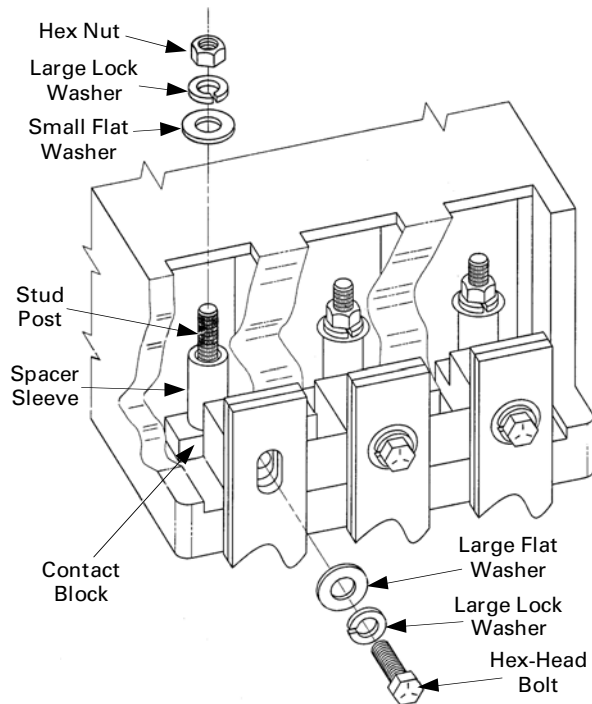

Figure 5. Securing the contact block to the studs and straps.
- a. **TKM and THKM circuit breakers used as main devices (lugs only on the ON side of the breaker).** Place the OFF side of the circuit breaker over the stud posts, as shown in Figure 4. Fasten the breaker to the module with the round-head screws, small lock washers, and flat washers provided. Place the contact blocks on the stud posts. Place spacer sleeves onto the contact blocks and secure each with a hex nut, small flat washer, and large lock washer. Secure the straps to the contact blocks with hex-head bolts, large flat washers, and large lock washers, as shown in Figure 5. Tighten the screws to 35–50 in-lb and the nuts and bolts to 200–250 in-lb.
- d. **All circuit breaker types except SKPA used as branch devices (lugs only on the OFF side of the breaker).** Place the ON side of the circuit breaker over the stud posts. Fasten the breaker to the module with the round-head screws, small lock washers, and flat washers provided, as shown in Figure 4. Place the contact blocks on the stud posts. Place spacer sleeves onto the contact block and secure each with a hex nut, small flat washer, and large lock washer. Secure the straps to the contact blocks with hex-head bolts, large flat washers, and large lock washers, as shown in Figure 5. Tighten the screws to 35–50 in-lb and the nuts and bolts to 200–250 in-lb.